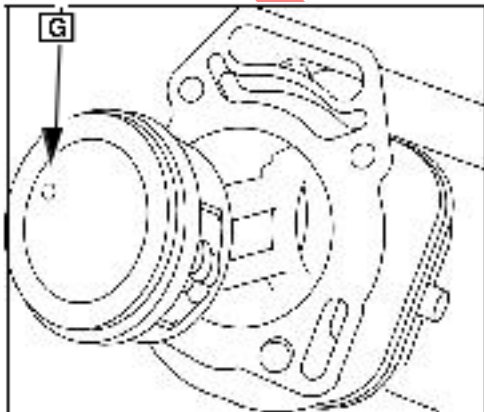

Fig. 20
Position piston with notch or casting mark (G) toward the flywheel side of the engine (Fig. 20).